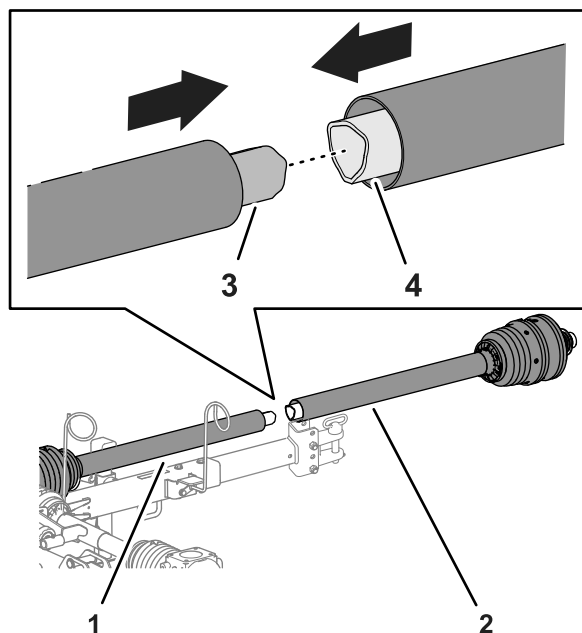

Figure 8
1. Align the inner tube of the rear PTO-driveshaft half with the outer tube of the forward PTO-driveshaft half, and slip the tubes together (Figure 8).